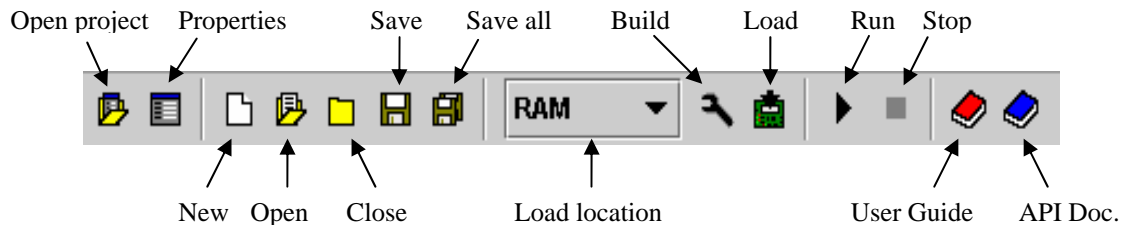

Figure 2-2 - RoboJDE Tool Bar
8. Click the Save all button (see Figure 2-2) or select the File->Save All menu item.
1. Locate the load button on the RoboJDE tool bar (see Figure 2-2) and note its state.